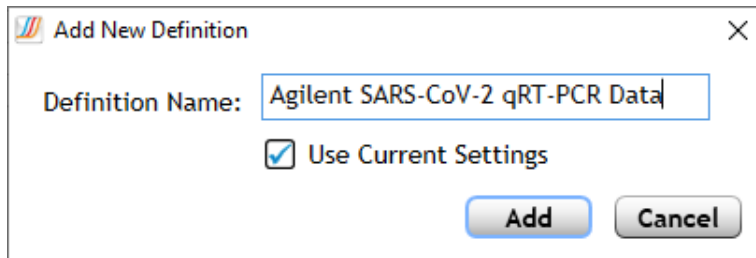

Figure 26 Aria Add New Definition dialog box
- c In the Definition Name field, type **Agilent SARS-CoV-2 qRT-PCR Data**. Refer to **Figure 26**.